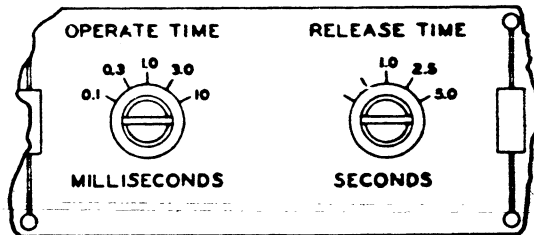
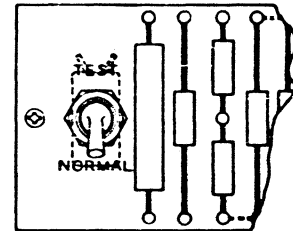

Figure 3-2. Operate and Release Time Controls
Figure 3-3. Normal Test Switch
(5) The following adjustments are located at the rear of the chassis and are accessible upon removal of the dust cover. Refer to Figure 3-2 and Figure 3-3.